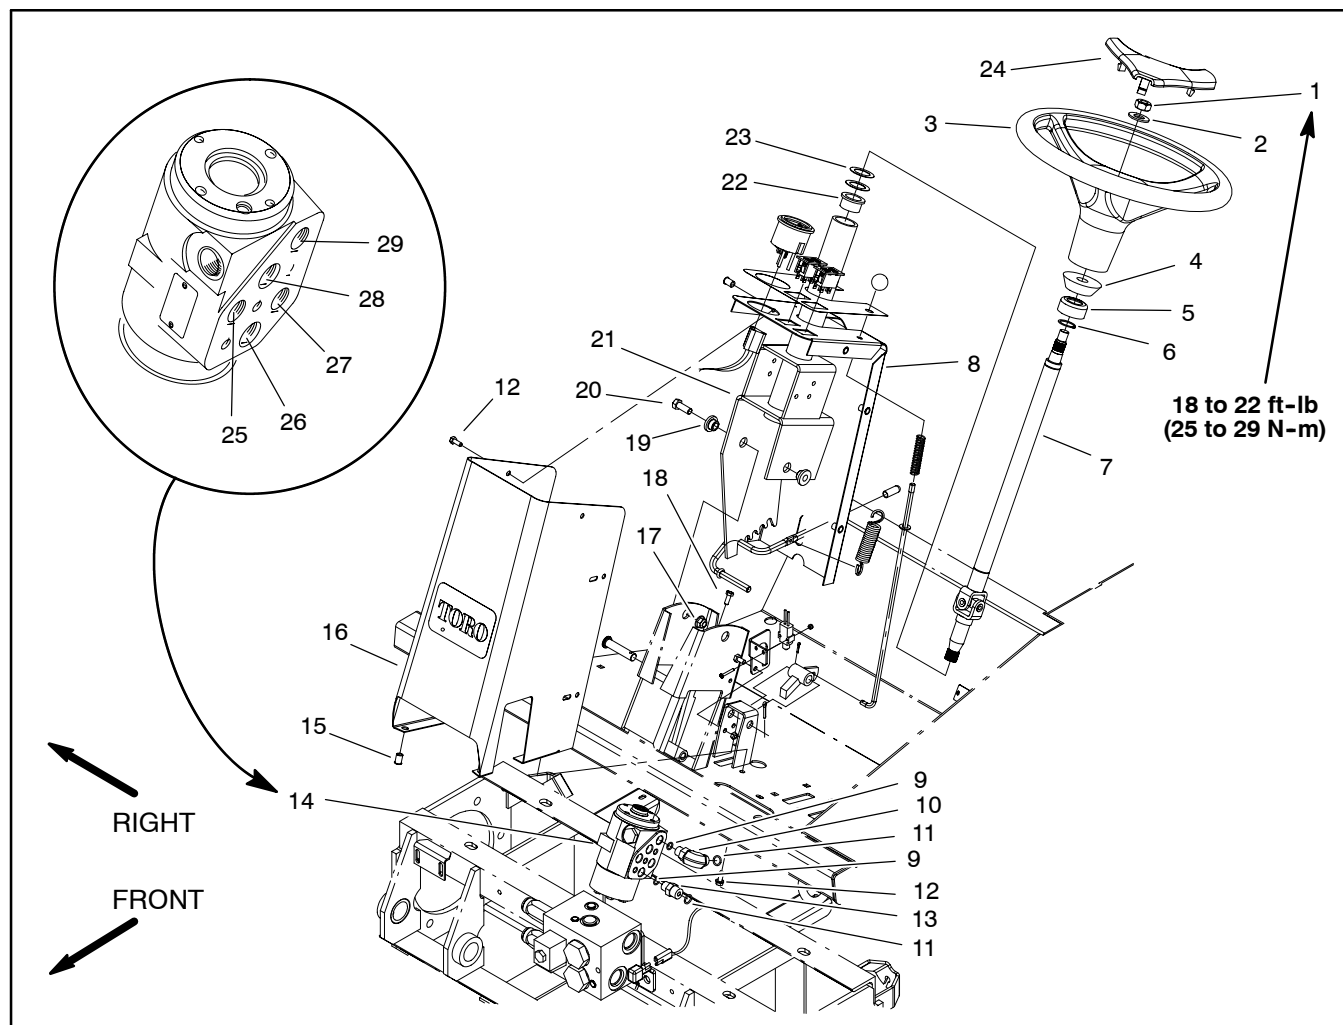

Figure 75
4. Remove steering valve from machine using Figure 75 as a guide.
1. Install steering valve using Figure 75 as a guide.